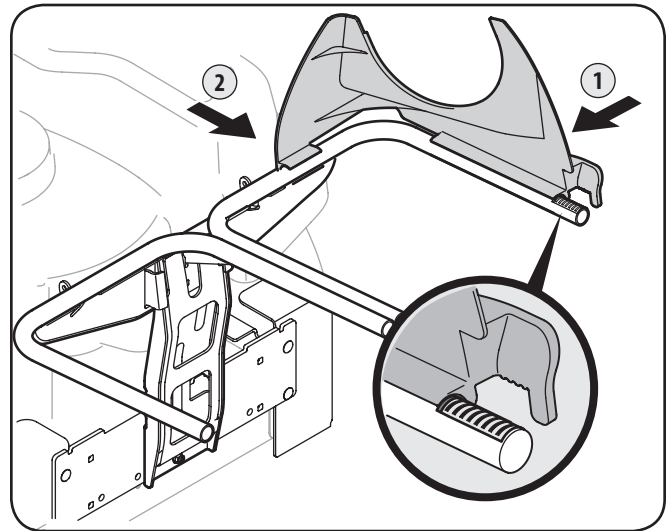

Figure 4-6
1. Snap the plastic upper chute support in place by first clipping the side portion onto the bagger support rail (1) with the edge of the snap feature aligned with the line on the label, as shown in the inset of Figure 4-6.
2. Snap the front side of the chute support to the rail (2), as shown in Figure 4-6.